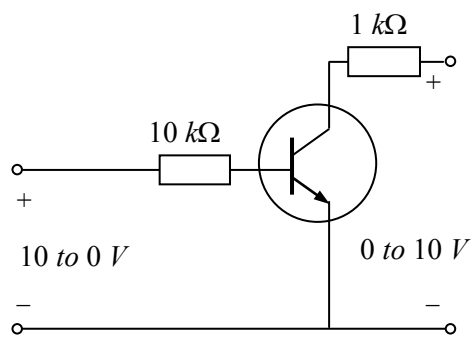

Fig. 2.42
**Transistor switches.** Transistorized base bias is usually designed to operate in switching circuits by having either low output voltage or high output voltage. For this reason, variations in operating point do not matter, because the transistor remains in saturation or cutoff when the current gain changes. In Fig. 2.42, the transistor is in hard saturation when the output voltage is approximately zero. This means the Q point is at the upper end of the load line.